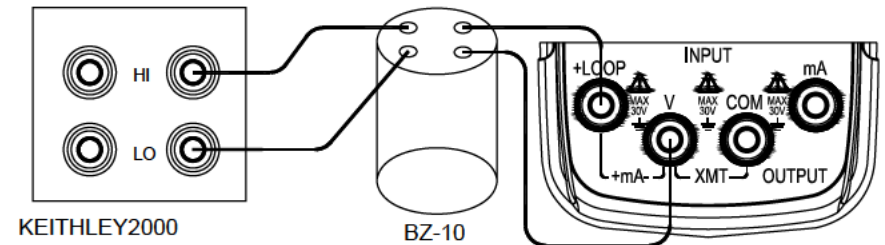

Figure 10-1
- 3) Connect to the Instrument as shown in Figure 10-1;
- 6) Press the key (100%/START), and the LCD displays 'SAVE', denoting that the calibrated point has been stored;